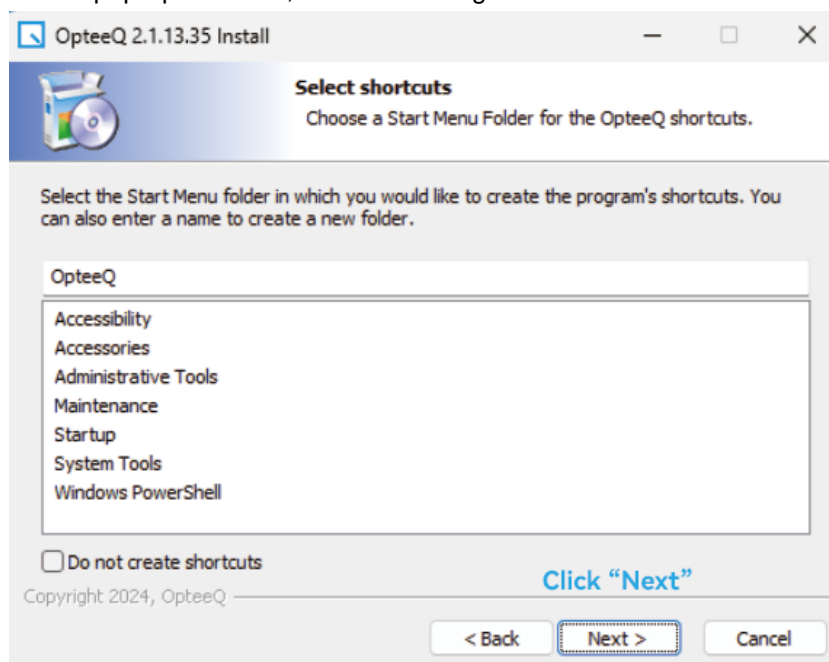

Figure 1.5 Step5
Step 5: Click "Next" in the pop-up interface, as shown in Figure 1.5.